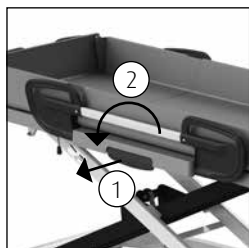

Figure 3 Side rail.
- The side rail is equipped with safeguards so that the client cannot raise the side rails themselves (See figure 3).
- Unlock the safeguard by using one hand to pull the protruding handle and rotating the side rail with your other hand (2) (See figure 3).